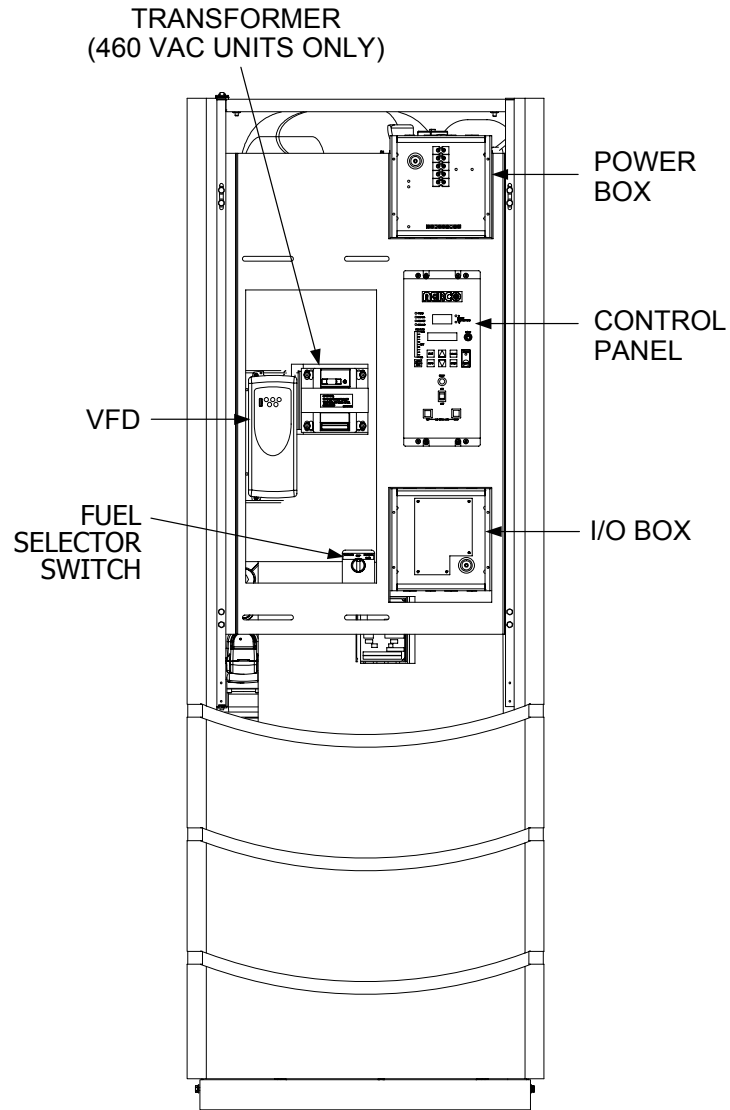

FIGURE K-1. BENCHMARK 3.0 DUAL FRONT VIEW – DOOR REMOVED
1. Refer to Figure K-1 and locate the Fuel Selector Switch on the front of the unit.
4. Refer to Figure K-1 and locate the Variable Frequency Drive (VFD) installed behind the front panel door of the unit.